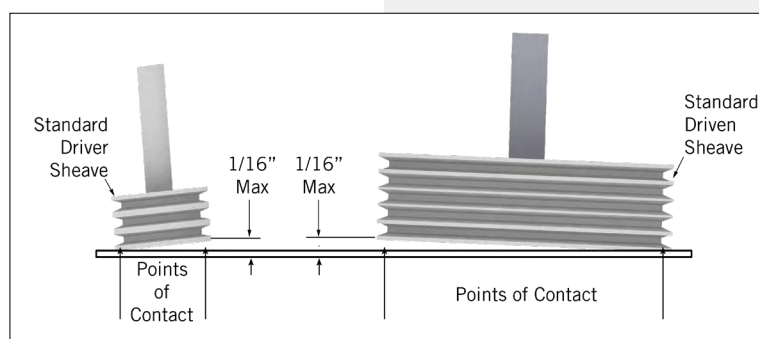
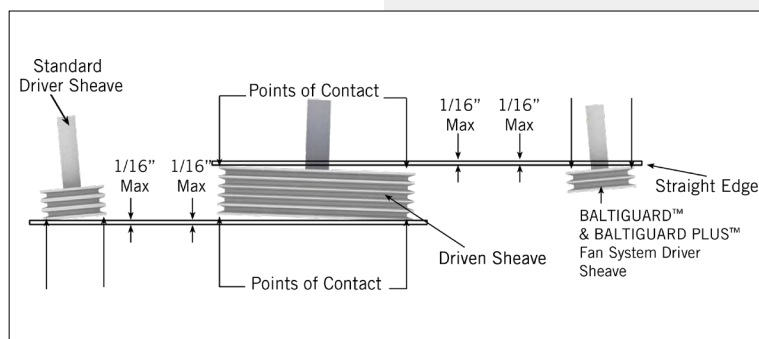

Figure 5a. Standard Drive Alignment
Figure 5b. BALTI GUARD™/BALTI GUARD PLUS™ Fan System Drive Alignment
- Place a straight edge across the driver and the driven sheaves as shown in **Figure 5a** for standard drives and in **Figure 5b** for the BALTI GUARD™ Fan System or the BALTI GUARD PLUS™ Fan System.
- The straight edge should contact all four points as shown in **Figure 5a** and **5b** indicating proper drive alignment.